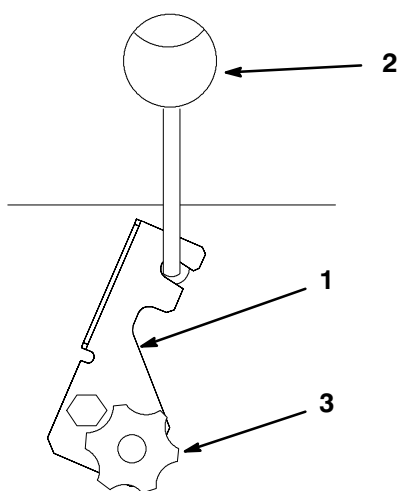

Figure 11
2. Loosen the lock bracket knob. Move bracket back and tighten knob (Fig. 11).